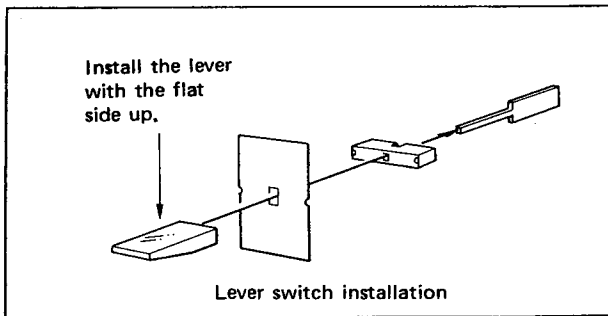

Fig.1
- When installing switches and knobs be careful not to install them in the wrong place or upside-down. See Fig. 1.